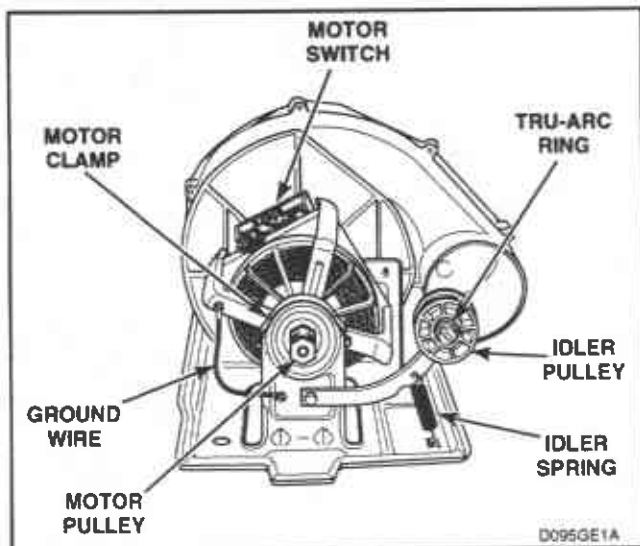

Figure 31
Refer to *Figure 31* for motor and idler pulley removal.
- (2) Disconnect ground wire from motor, *Figure 31*.
- (3) Pry two motor clamps off motor mounting bracket with screwdriver, *Figure 31*, then lift motor out of mounting bracket.